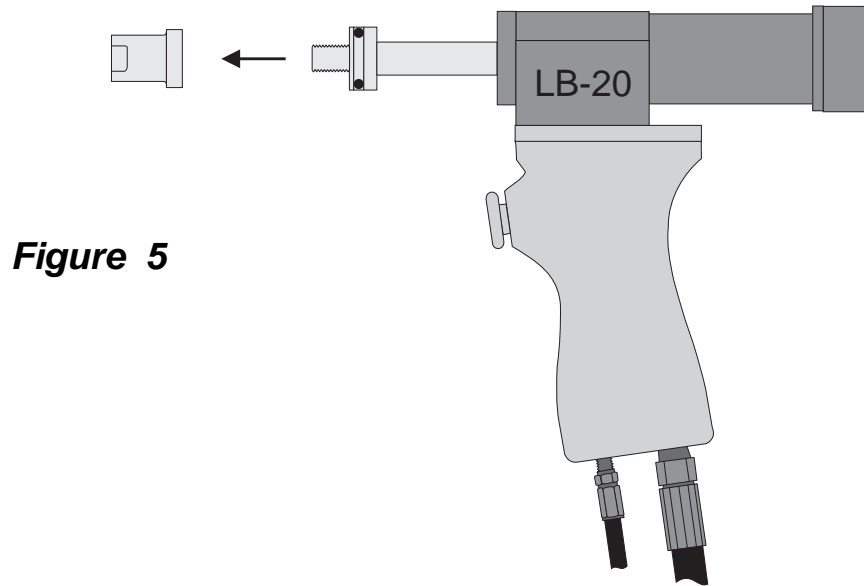

Figure 5
- Remove mandrel adapter from piston rod. (Figure 5)